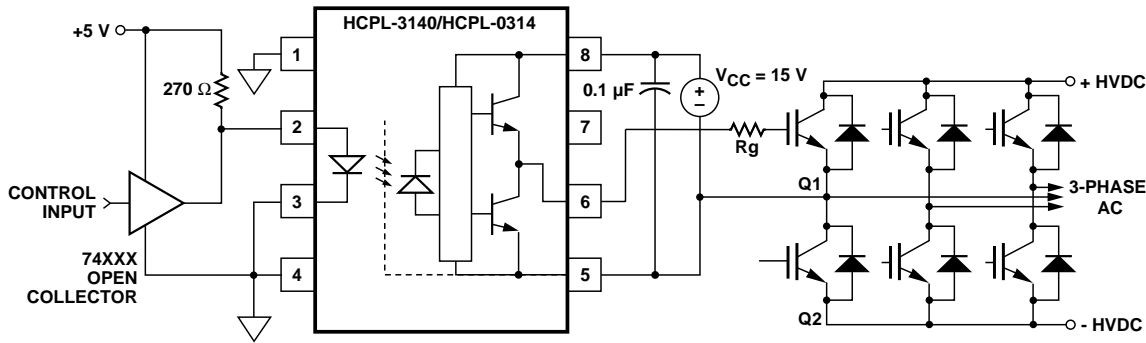
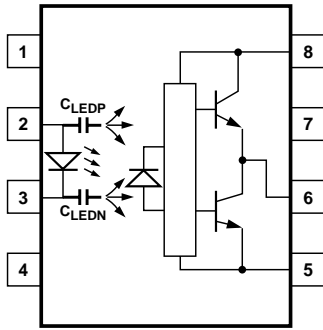
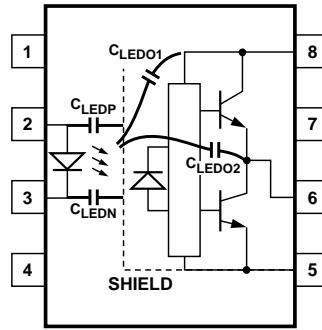

Figure 19. Recommended LED Drive and Application Circuit for HCPL-3140/HCPL-0314.
Figure 21. Optocoupler Input to Output Capacitance Model for Unshielded Optocouplers.
Figure 22. Optocoupler Input to Output Capacitance Model for Shielded Optocouplers.
HCPL-3140/HCPL-0314 on a small PC board directly above the IGBT) can eliminate the need for negative IGBT gate drive in many applications as shown in Figure 19. Care should be taken with such a PC board design to avoid routing the IGBT collector or emitter traces close to the HCPL-3140/HCPL-0314 input as this can result in unwanted
Step 1: Calculate R_g minimum from the I_{OL} peak specification. The IGBT and R_g in Figure 19 can be analyzed as a simple RC circuit with a voltage supplied by the HCPL-3140/HCPL-0314.
where $K_{ICC} \cdot Q_g \cdot f$ is the increase in I_{CC} due to switching and K_{ICC} is a constant of 0.001 mA/(nC*kHz). For the circuit in Figure 19 with I_F (worst case) = 10 mA, R_g = 32 Ω, Max Duty Cycle = 80%, Q_g = 100 nC, f = 20 kHz and T_{AMAX} = 85°C:
Without a detector shield, the dominant cause of optocoupler CMR failure is capacitive coupling from the input side of the optocoupler, through the package, to the detector IC as shown in Figure 21. The HCPL-3140/HCPL-0314 improves CMR performance by using a detector IC with an optically transparent Faraday shield, which diverts the capacitively coupled current away from the sensitive IC circuitry. However, this shield does not eliminate the capacitive coupling between the LED and opto-coupler pins 5-8 as shown in Figure 22. This capacitive coupling causes perturbations in the LED current during common mode transients and becomes the major source of CMR failures for a shielded optocoupler. The main design objective of a high CMR LED drive circuit becomes keeping the LED in the proper state (on or off) during common mode transients. For example, the recommended application circuit (Figure 19), can achieve 10 kV/μs CMR while minimizing component complexity.
supplied by the LED, and it is not recommended for applications requiring ultra high CMR₁ performance. The alternative drive circuit which like the recommended application circuit (Figure 19), does achieve ultra high CMR performance by shunting the LED in the off state.